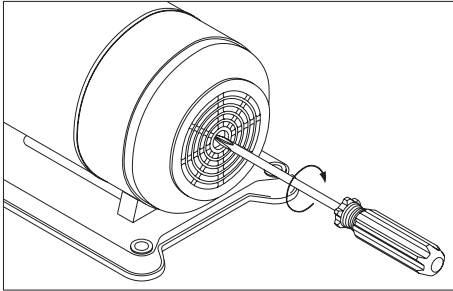

FIG.1
3. Insert a screw driver cross into the shaft slot , and turns the shaft 2-3 rounds to check if the pump runs normally , then open one faucet on the delivery side , the turn the power switch ON.(FIG.1)